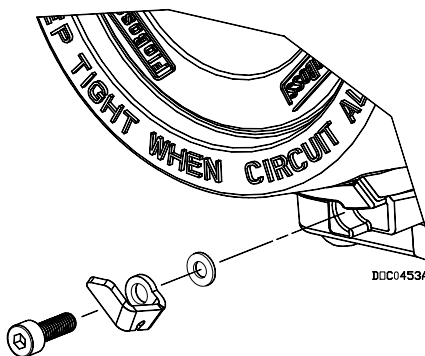

Figure 5. Cover Clamp Assembly
- Unscrew the cover clamp at the base of the front end cap (LCD end). See *Figure 5*.